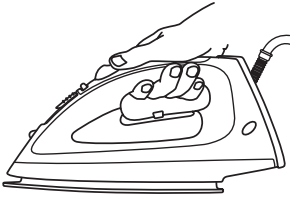
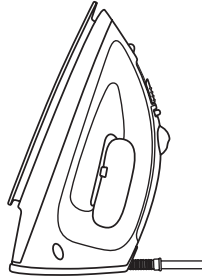

FIGURE 5
FIGURE 6
NOTE: When the iron is plugged in for use, the iron must first be placed in the horizontal position with your hand making contact with the handle (see Figure 5). The iron can then be placed in the vertical position (see Figure 6) and the desired temperature selected. If the iron is not first placed in the horizontal position, the iron will not heat-up. This is an additional safety feature.
5. Tilt the iron to the horizontal position (see Figure 5) to turn the iron on. It may then be returned to the vertical position (see Figure 6) to preheat the iron.
6. Tilt the iron to the horizontal position (see Figure 5) to turn the iron on. It may then be returned to the vertical position (see Figure 6) to preheat the iron.